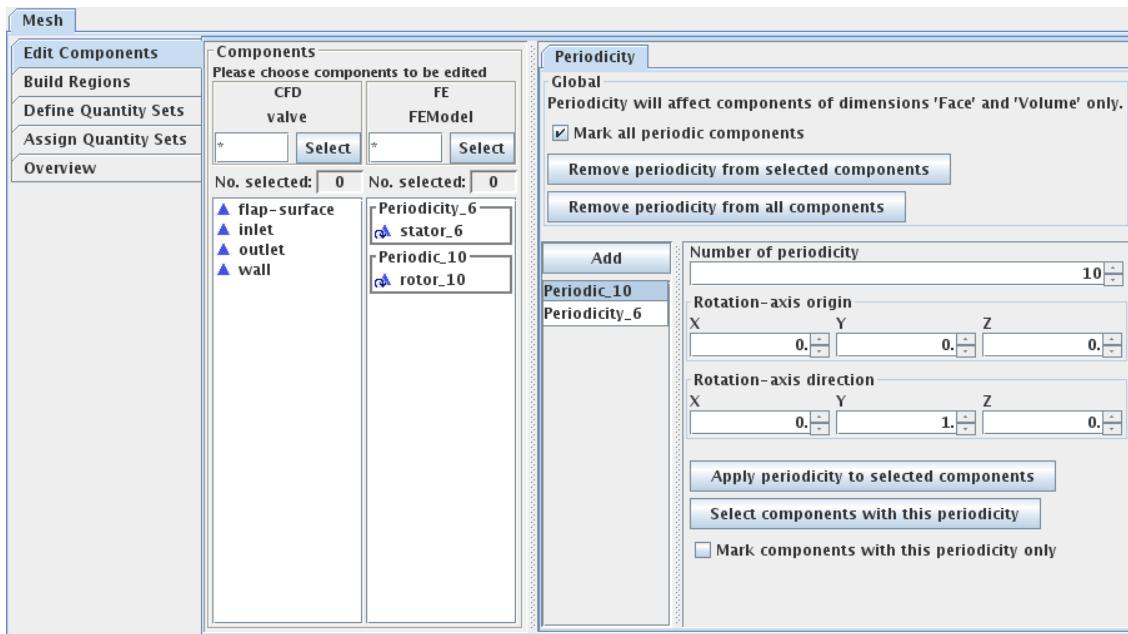

Figure 13: Marked periodic components
And secondly the periodicity panel provides options for marking components. These lead to a visual representation of the periodicity name in the components lists (see Figure 13):
- **Mark all periodic components** marks all components assigned any periodicity. This option can be checked in the global part (1) of the periodicity panel as shown in Figure 13.